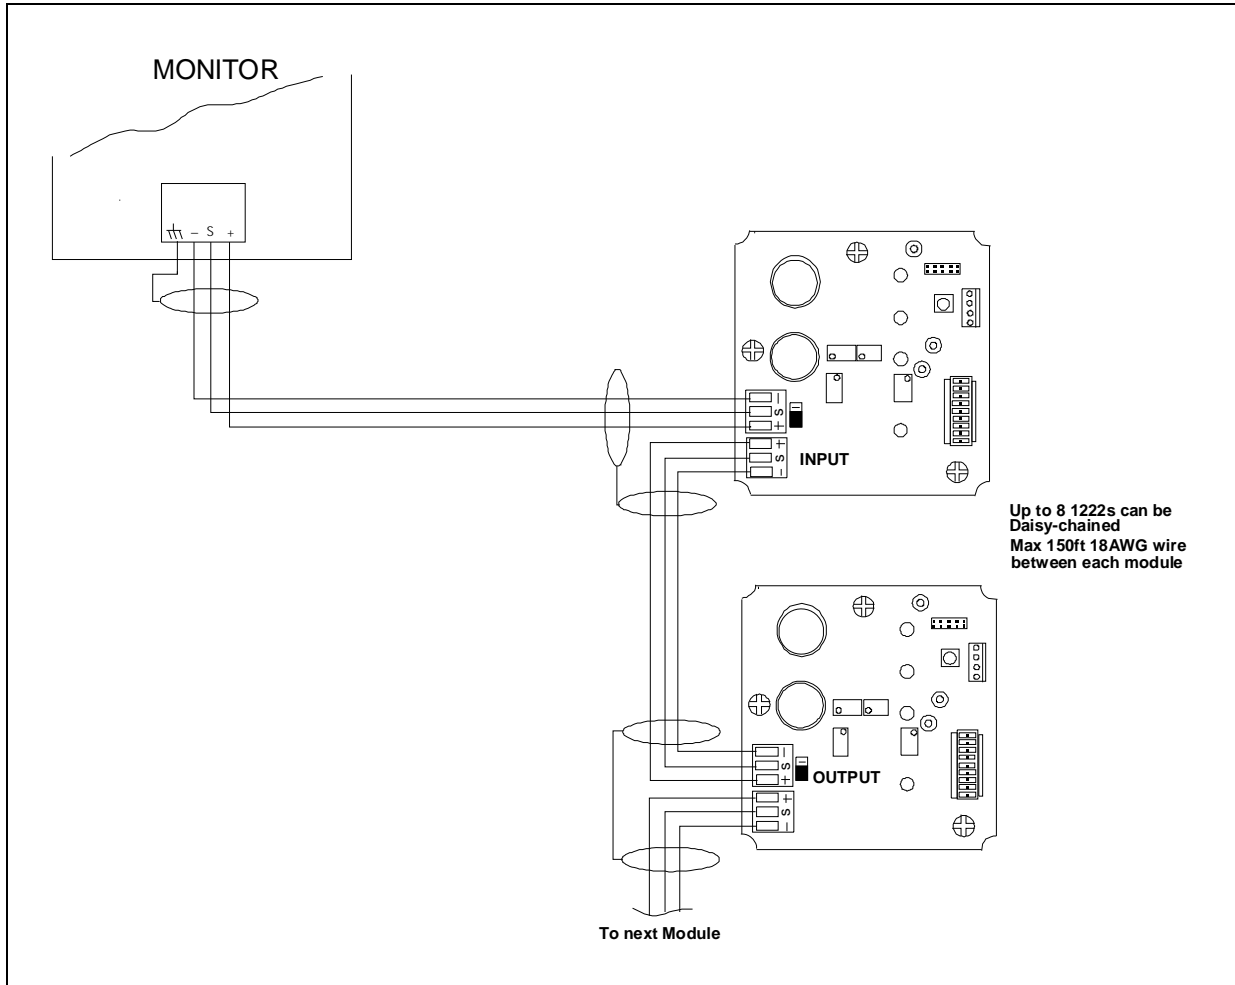
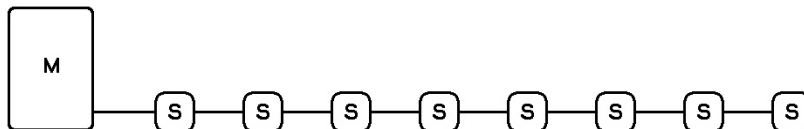

Figure 4-3 Detail wiring of Sensor Modules
Figure 4-4 Typical System Configuration Layout
The AMC-1222 sensor module provides continuous, reliable surveillance of surrounding air for traces of hazardous gases (listed in section 2.2 FACTORY CALIBRATION, page 4). This module is designed to allow interconnection in series as in a "daisy chain" configuration (refer to Figure 4-3) to a single or multi-zone AMC 1AD Series monitor or to any other monitor which can accept voltage or current signal as specified in section 5.1 OPERATION. When using an AMC 1AD Series monitor, a maximum of eight (8) sensor modules can be connected to each zone. Each module produces Low alarm, High alarm and Fail signals, which are transferred from one sensor module up the line of modules to the monitor.
To gain access to the terminal blocks, remove the four (4) screws and front panel from the housing. This will expose the field wiring terminals. The sensor module output (-,OUT,+) terminal block, connects to the input (-,IN,+) terminal block of the next module towards the monitor, or to the sensor/transmitter terminal block in the monitor, as shown in Figure 4-3.
Each sensor module is designed to interconnect to other modules in series configuration. Typical configuration is shown in Figure 4-4. Since each module is pre-calibrated, additional modules can be added to a system without altering the monitor settings. When multiple modules are interconnected, the EOL switch is in the off position except for the last one (refer to section 4.2.2 TERMINATION and Figure 4-3).